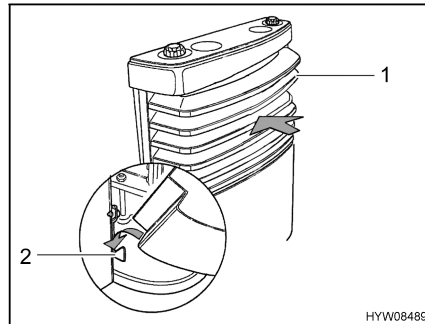

Fig. 57 Heater cover, lower brackets
- Mount the heater cover. To do this, place the heater cover (Fig. 57,1) on the lower brackets (Fig. 57,2).